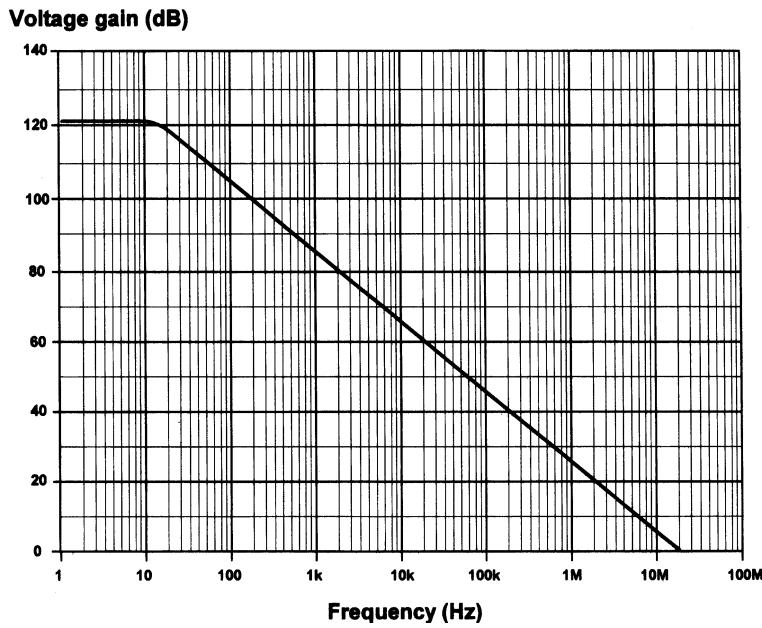

Figure A2.20
44. The frequency response characteristic of an operational amplifier is shown in Fig. A2.20. If the device is configured for a closed-loop gain of 200, determine the resulting bandwidth. [Page 142]